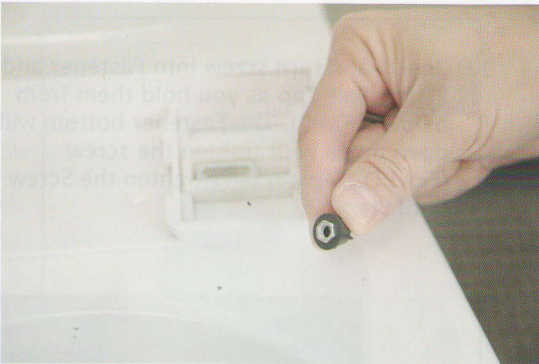

Fig. 7
8) Put the Hexagonal Metal Bolts into the Plastic Bolt Caps (Fig.7)